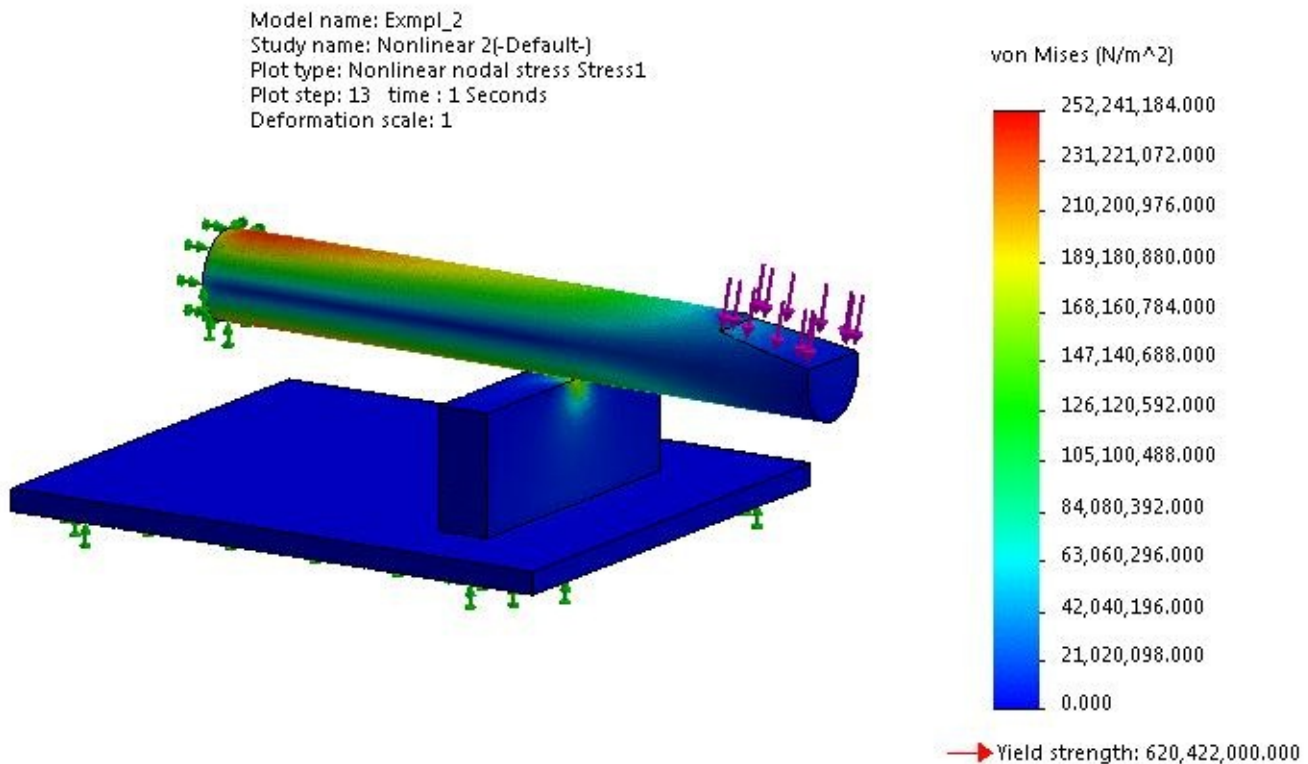

Figure-24. Analysis result
- On completion of the analysis, the result will be displayed; refer to Figure-24.